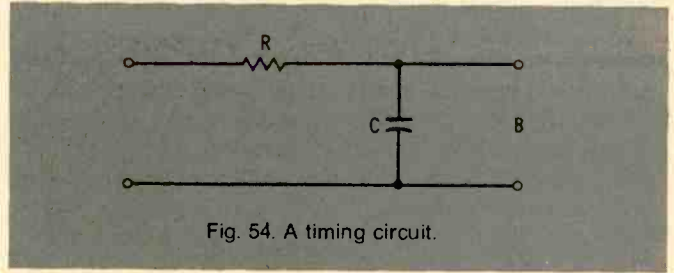

Fig. 54. A timing circuit.
An RC series circuit can be used as a timing device. See Fig. 54. It is, in fact, often used this way (e.g., in television receivers). In the circuit of Fig. 54, the length of time that it will take for the capacitor voltage to rise to some given value can be calculated. If some device (which will be triggered only when this given value of voltage is reached) is connected across the output terminals **B**, the device (such as a gas diode) will be triggered after a predictable time delay from the time that the input voltage (E) is applied.